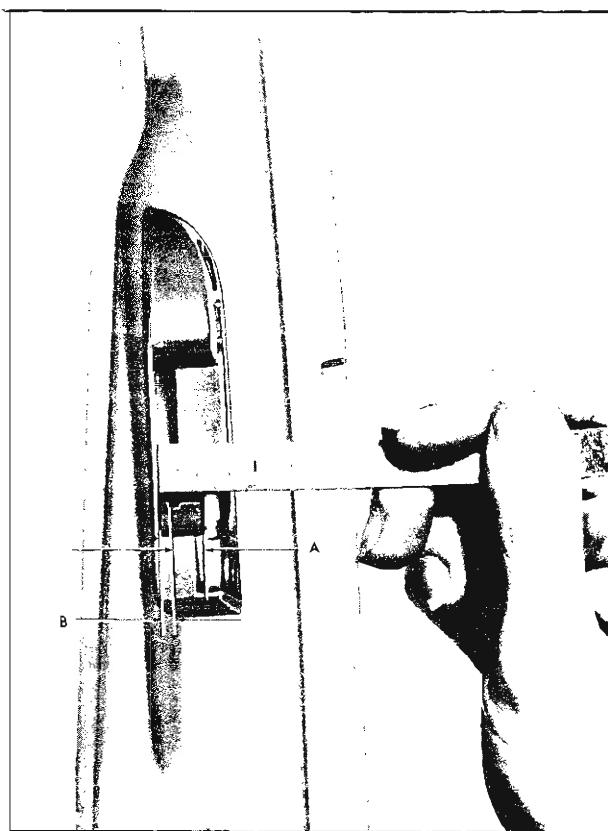

Fig. 12-5 Door Lock Striker Engagement Check
2. To determine if door lock striker emergency spacers are required, apply modeling clay or body caulking compound in door lock striker notch where lock extension engages, and then close door to form a measureable impression in clay or caulking compound as shown in fig. 12-5.
When dimension "A" (Fig. 12-5) from rear face of striker teeth to rear edge of depression in clay is less than $\frac{1}{32}$ ", install emergency spacers and proper length striker attaching screws as indicated.